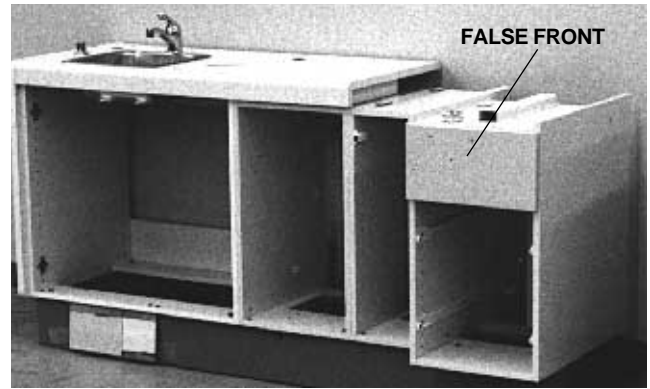

FIGURE 7
- Remove the four screws which secure the false front to the large lower module (see Figure 7).